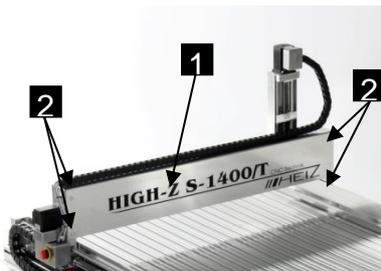

Fig. 27: Abdeckung Y-Achse
- 3 Loosen and remove the four screws (Fig. 27/2).
- 4 Remove the cover (Fig. 27/1) on the Y-axis.